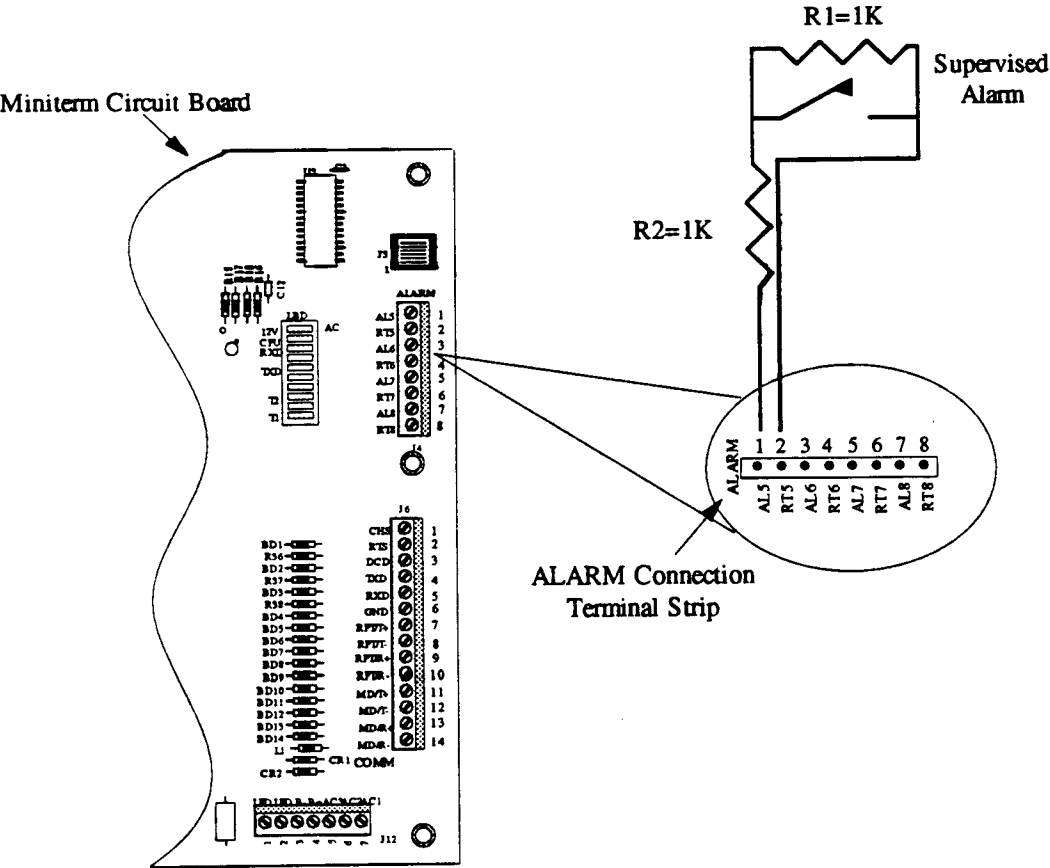

Figure 17 - ALARM Terminal Strip - Miniterm Supervised Alarm Condition
2. Install R1 in parallel with the alarm contacts (see Figure 17).